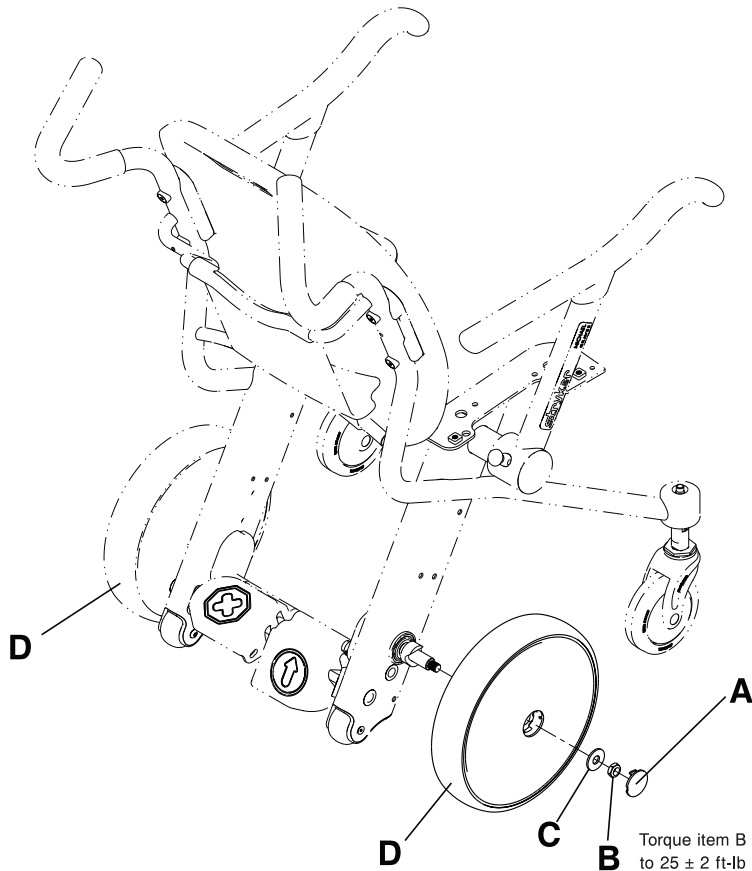

Figure 1-28: Rear wheel replacement
2. Using a pick, remove and discard the rear wheel center nut cover (A) (Figure 1-28 on page 1-44).
3. Using a 3/4" socket and a 3/8" drive ratchet, remove and discard the rear wheel center nut (B) (Figure 1-28 on page 1-44).
4. Remove and discard the center washer (C) (Figure 1-28 on page 1-44).
5. Grasp the rear wheel with both hands and pull outward to remove the rear wheel (D). Discard the rear wheel.
6. Reverse steps 2-5 to install the supplied rear wheel. Using a 3/8" drive torque wrench, torque the rear wheel center nut (B) to  $25 \pm 2$  ft-lb.